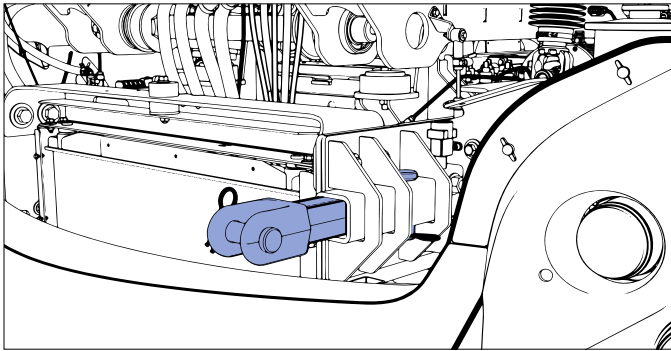

Figure 29 - *Tow hooks inserted on the front crossmember*
3. Insert the two hooks on the front cross member. (Figure 29)